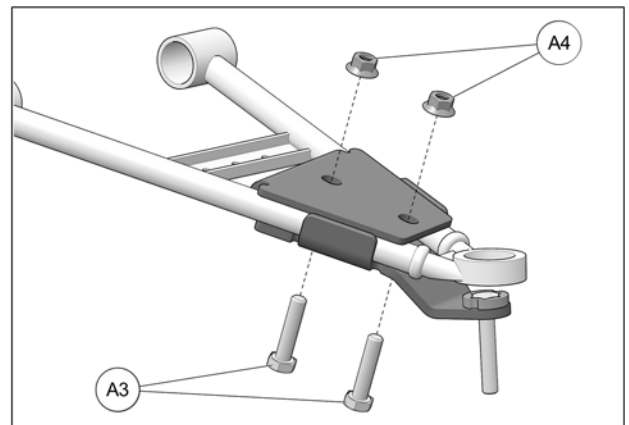

Fig. 19
7. Insert the M10x45 mm bolts (A3) through the bottom and secure the two parts together using the nuts (A4) provided. Tighten assembly to 50 N•m [37 lb•ft] of torque. Refer to Fig. 19